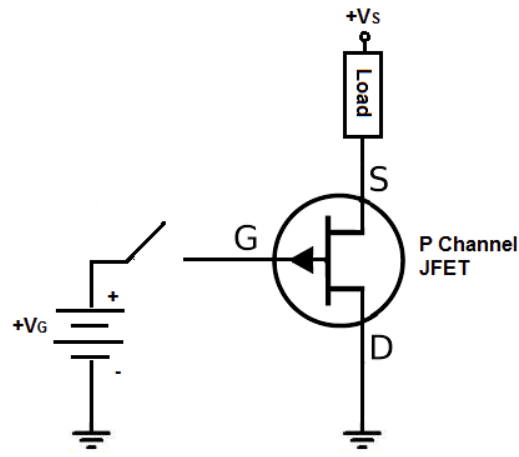

Figure 9: Circuit for plotting  $I_D$  vs  $V_D$  and transfer characteristics of p-channel JFET (J176)
1. Connect the circuit as shown in figure 9. Keep  $V_S = 10\text{ V}$  constant.
1. Connect the circuit as shown in figure 9. Keep  $V_G = 15$  V constant.